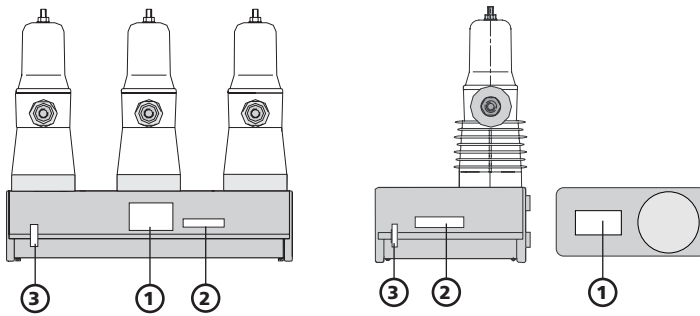

Figure 18
- Damage to the seals (Figures 18, 19)
Arrangement of the labels (Figures 18, 19):